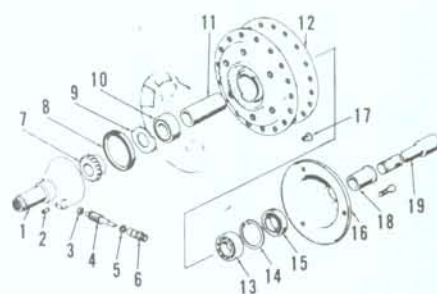

Fig. K13-33—View of front wheel hub.
as piston is pushed in. Install new "A" pad and new "B" pad. A locking compound should be used on threads of screw (1). Reinstall front wheel and bleed hydraulic system. Make sure that lugs on speedometer drive gear holder (9—Fig. K13-33) are properly meshed with front wheel hub (12), when reassembling.